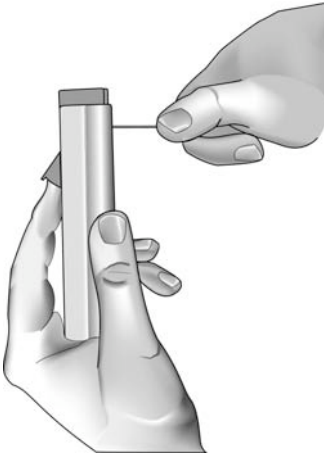

FIGURE 3
2. Push the pointed end of a paper clip into the Module Release mechanism, while simultaneously pushing gently upward on the Sensor Top Lever (Figure 3), until the Integral Finger Sensor is released.